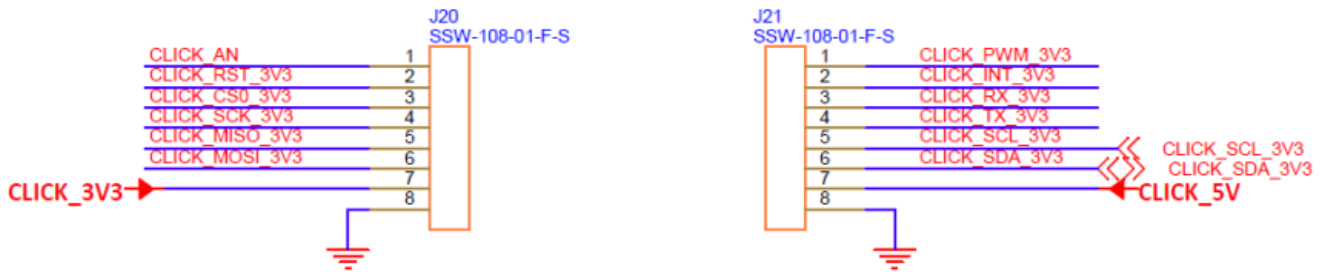

Figure 22 – MikroE Click Site Implementation
- Figure 22 is the implementation of the MikroE Click site interface. The analog pin, AN, has support provided by a Microchip MCP3201T-CI/SN A/D converter. The I2C interface on the MikroE Click site is accessed via an NXP PCA9544APW,118 which is a 4CH I2C bus multiplexer.